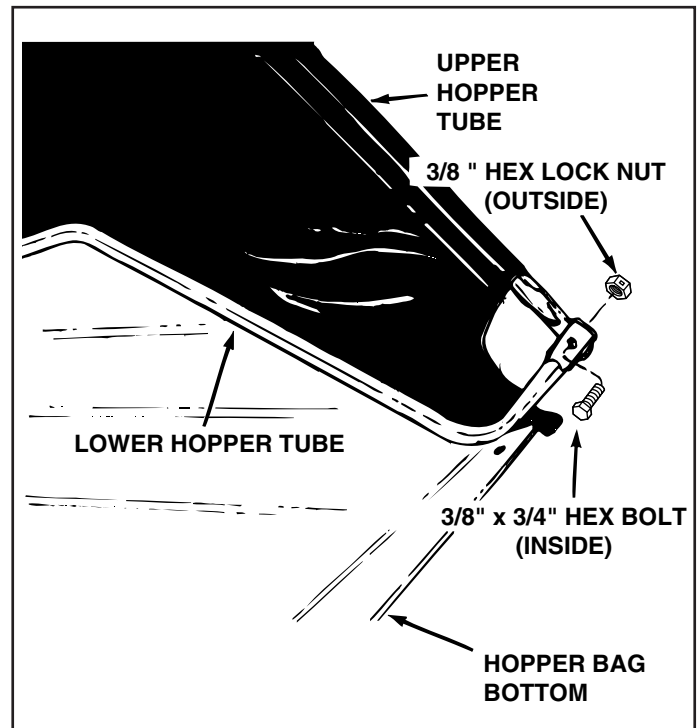

FIGURE 11
5. Place the assembled lower hopper tubes into the bottom of the hopper bag as shown in figure 11.
6. Assemble the ends of the upper and lower hopper tubes together using two 3/8" x 3/4" hex bolts (on the inside) and two 3/8" hex lock nuts (on the outside). **Tighten to allow bag to pivot freely.** See figure 11.